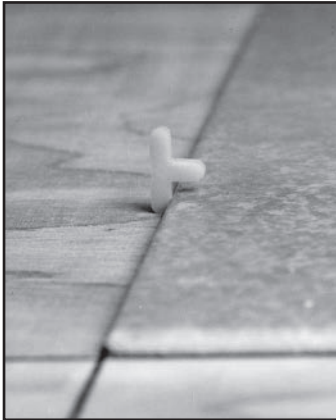

Fig. 11 - Use spacers with one leg removed.
- If standard tile spacers are used, it will be necessary to remove one leg of the spacer (Fig. 11) otherwise it will interfere with positioning the tile. Stand spacers on end. Do not place tile spacers flat at the intersection of tiles; they can become bonded, making it difficult to remove them without damaging the edge of the tile.